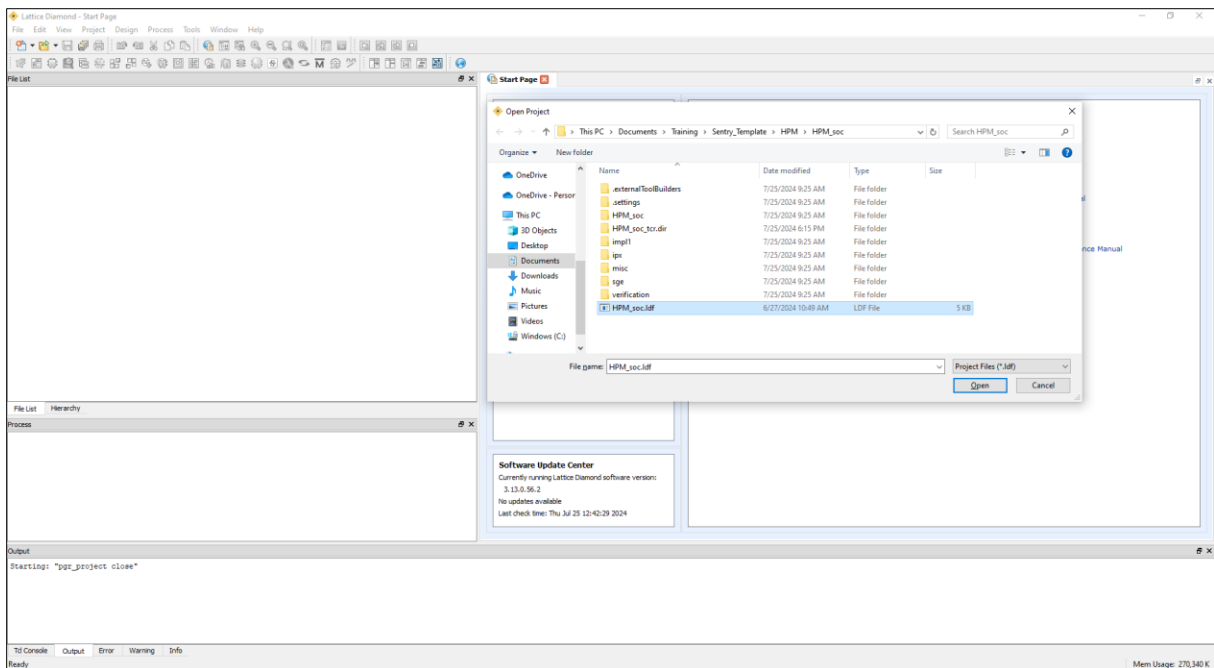

Figure 5.11. Open HPM_soc in the Lattice Diamond Software
2. Open the HPM_soc project file (HPM_soc.ldf) in the Lattice Diamond software (Figure 5.11).